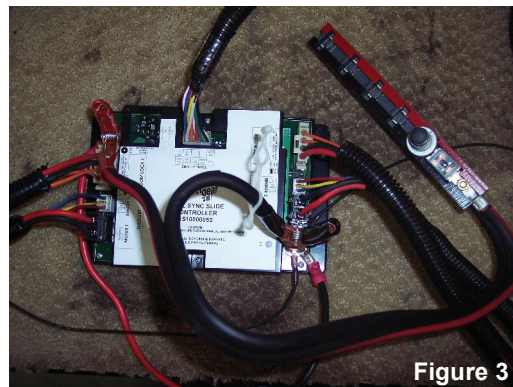

Figure 3
3. Remove the plastic wire lead separator from one of the wire leads on the ERM and separate the wire leads by pulling them apart to allow the clips to reach the terminals on the control. **Ref Figure 3**
Ref Figure 3